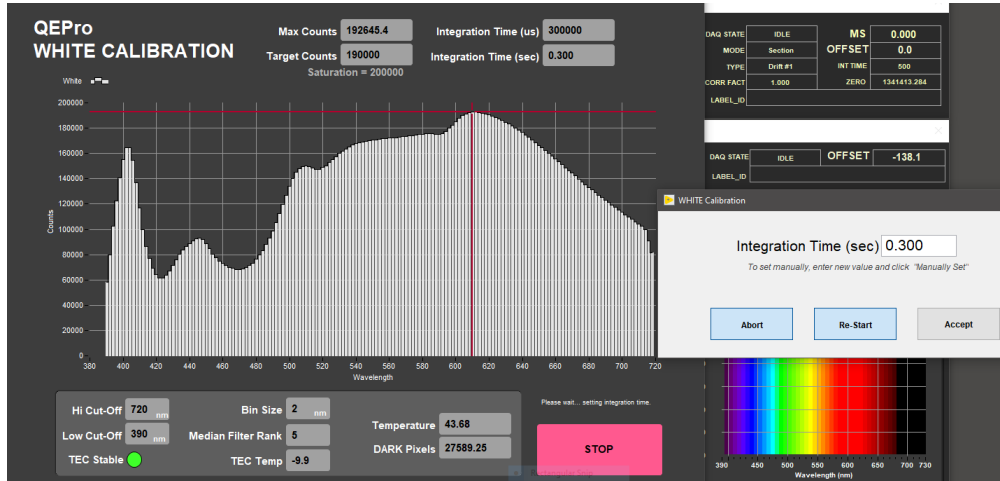

Figure 3. QE Pro White Calibration.
2. Click **CALIBRATE** to begin the calibration process, starting with the White calibration. The QE Pro integrating sphere lowers over the QE Pro calibration standard until contact. The **Integration Time** should be less than 0.55 seconds (Figure 3).